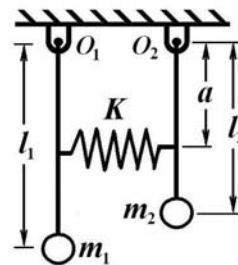

Figure 2, Q.5 (b)
- (b)** Two simple pendulums are connected in parallel by a spring as shown in Figure 2. Derive the equations of motion for two masses and expression of ratio of amplitudes. **07**